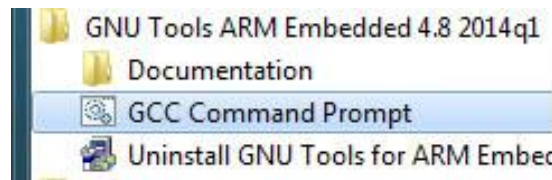

Figure 21 - GCC Command Prompt shortcut
1. Open a GCC Command prompt. When ARM GCC was installed a shortcut was created in the start menu as shown in Figure 21.